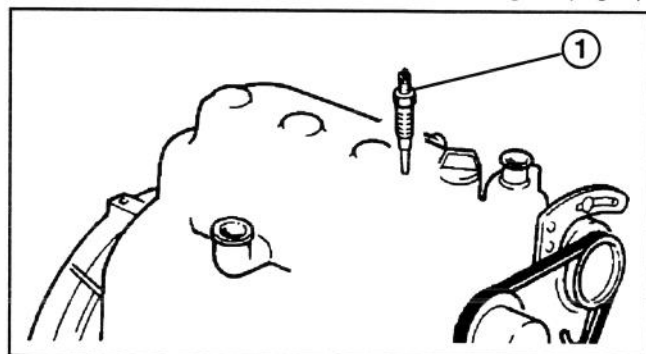

Figure 5
23. Clean any debris from around glow plugs. Disconnect and remove all (3) glow plugs from engine (Fig. 5).